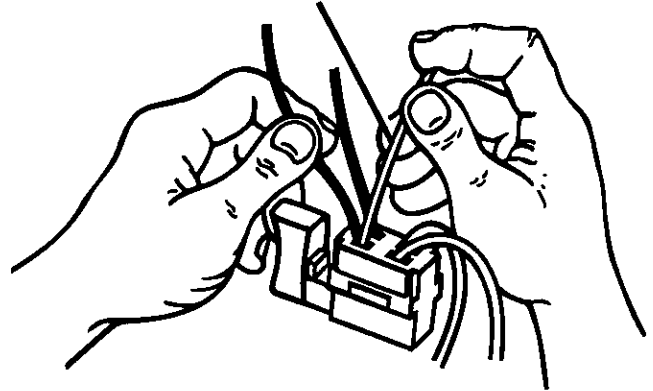

Fig. 16
- Release the cord leads from the switch by inserting a 1/32 in. diameter pin or nail into each cord lead receptacle. See Figure 16.